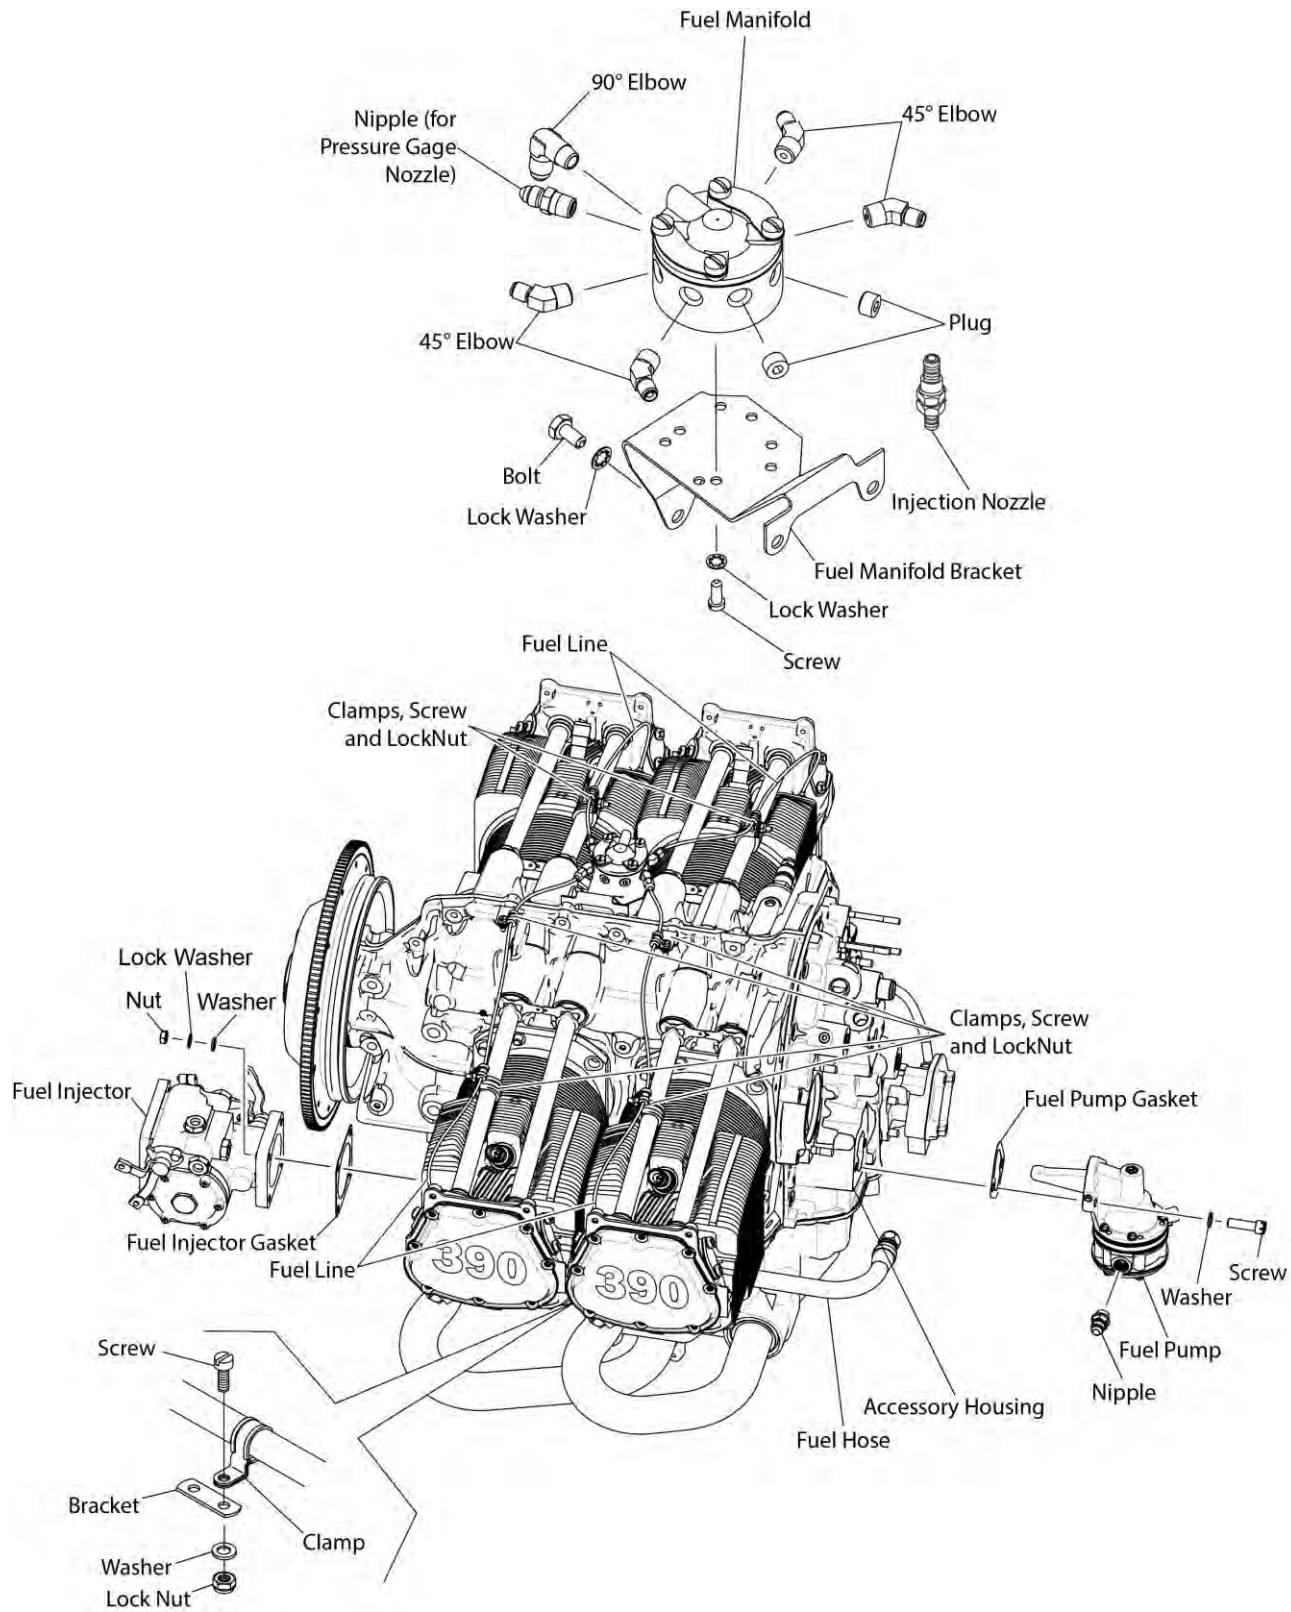

Figure 1
NOTICE: Figure 1 is a general conceptual reference figure of fuel system components. Some of the IO-390-C engine models contain fuel system components made up of different configurations and part numbers. Refer to the applicable latest edition of the *IO-390-C Series Engines Illustrated Parts Catalog* for part number details.
- C. Examine the fuel manifold (Figure 1) for damage, leaks, and loose fittings or connections. Tighten any loose fittings or connection. Replace a damaged fuel manifold per the “Fuel Manifold Replacement” procedure in this chapter.
- E. Examine each injection nozzle (Figure 1) for damage or wear; replace a damaged or worn injection nozzle per the “Injection Nozzle Replacement” procedure in this chapter.